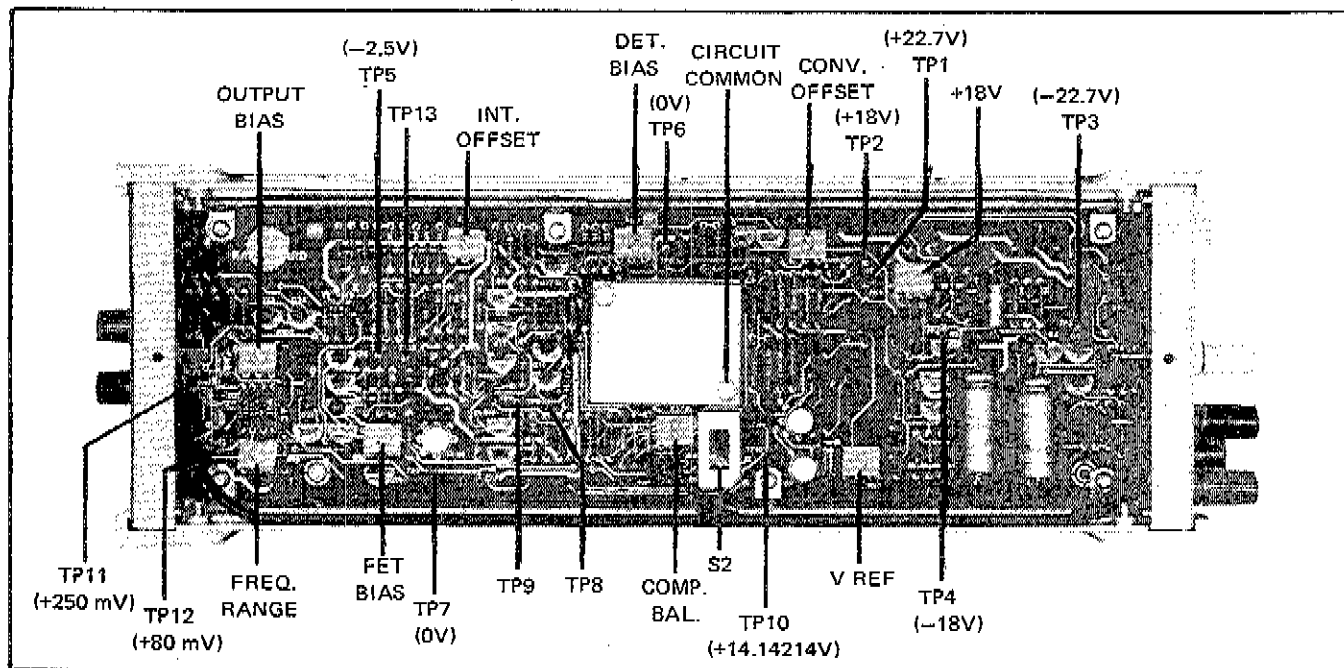

Figure 4-1. ADJUSTMENT AND TEST POINT LOCATIONS
- Turn off the Model 510A and remove the top dust cover. Access is provided to all adjustments and test points shown in Figure 4-1.
4-37. All calibration test points and adjustments are shown in Figure 4-1. These calibration points are accessible after removal of the top dust cover. Required test equipment is listed in Table 4-1.
a. Remove the top dust cover. Adjustment and test point locations are shown in Figure 4-1.